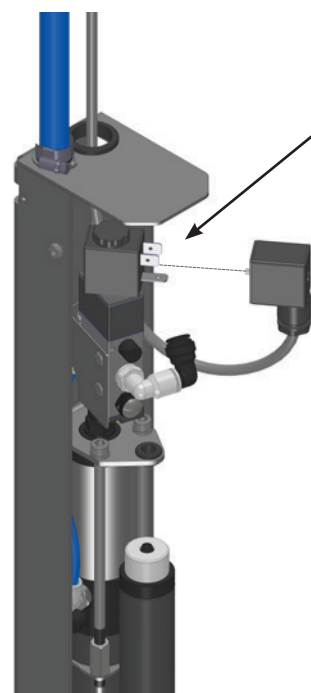

Figure 76: Valve plug connection to Care Pump
2. Connect plug to care pump air valve - See figure 76